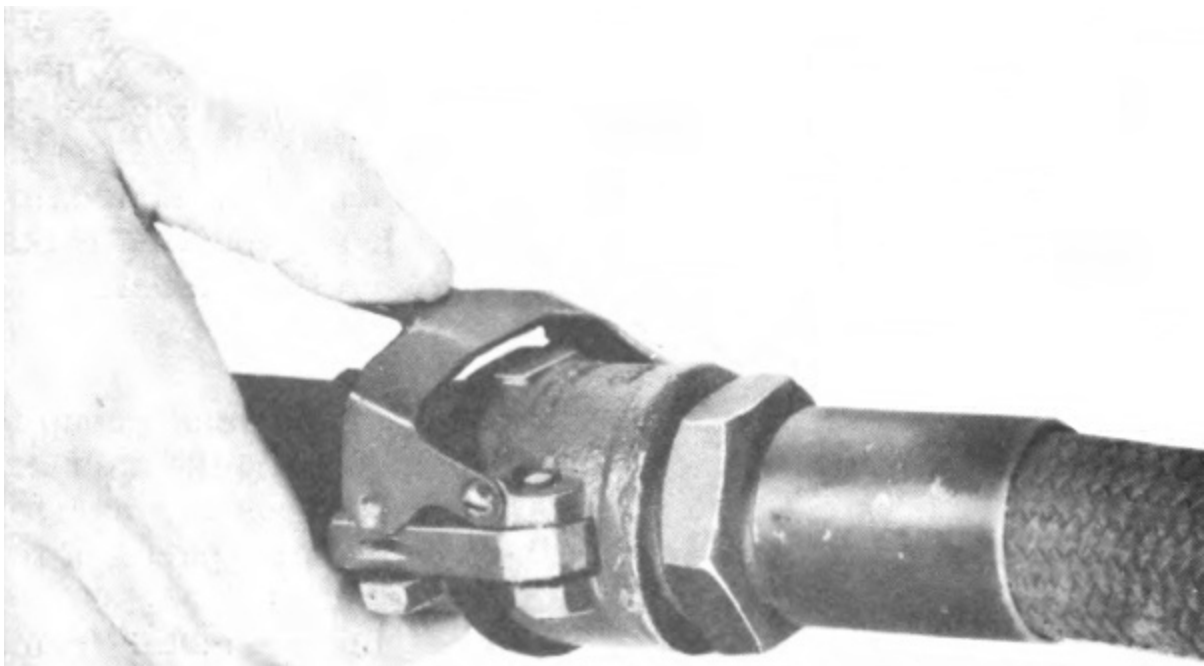

Fig 44. Closing lock of tank coupling to secure gun to tank group. This also provides a fuel-tight seal.
(3) Close the coupling lock (Fig 44), being sure to push it all the way, until it covers the ends of both cams. (Figure 45 shows coupling lock correctly locked on coupling plug.)